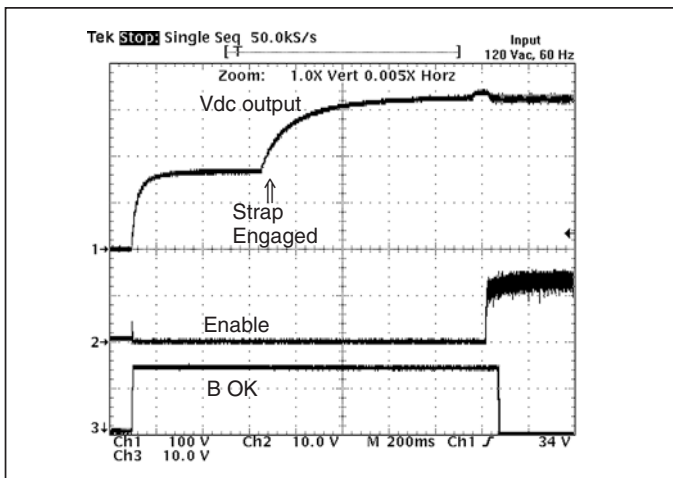
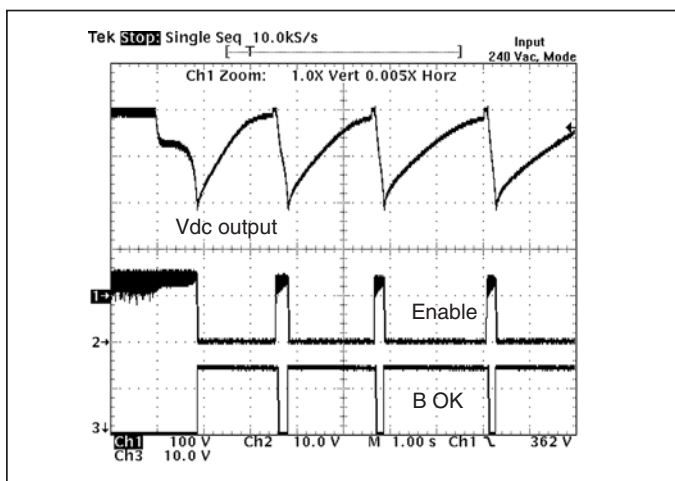

Figure 3 — Start-up at 120 Vac input
Figure 7 — Output overvoltage protection 240 Vac range
■ INPUT SPECIFICATIONS (see *Figure 3 thru Figure 7* for operating characteristics)